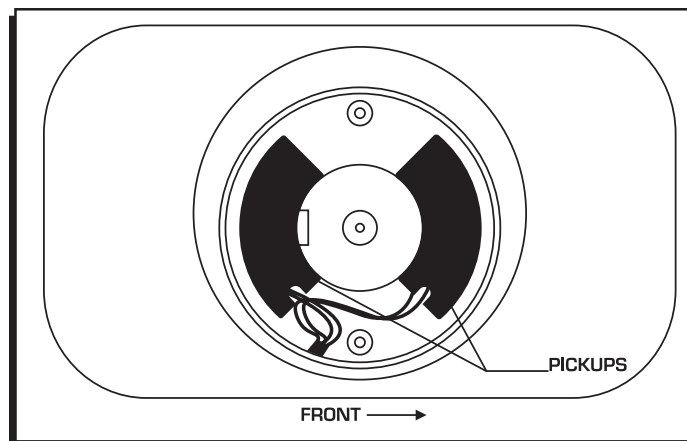

Figure 2 Pickup Position for Sportsters.
3. Mount the MSD pickup plate inside the housing (Figure 2). Note the "adjusting notch on the edge of the plate. This notch must be located over the "cast notch" inside the housing (about the 11 o'clock position as you face the housing). The shorter of the two sensors will be approximately in the 9 o'clock position.